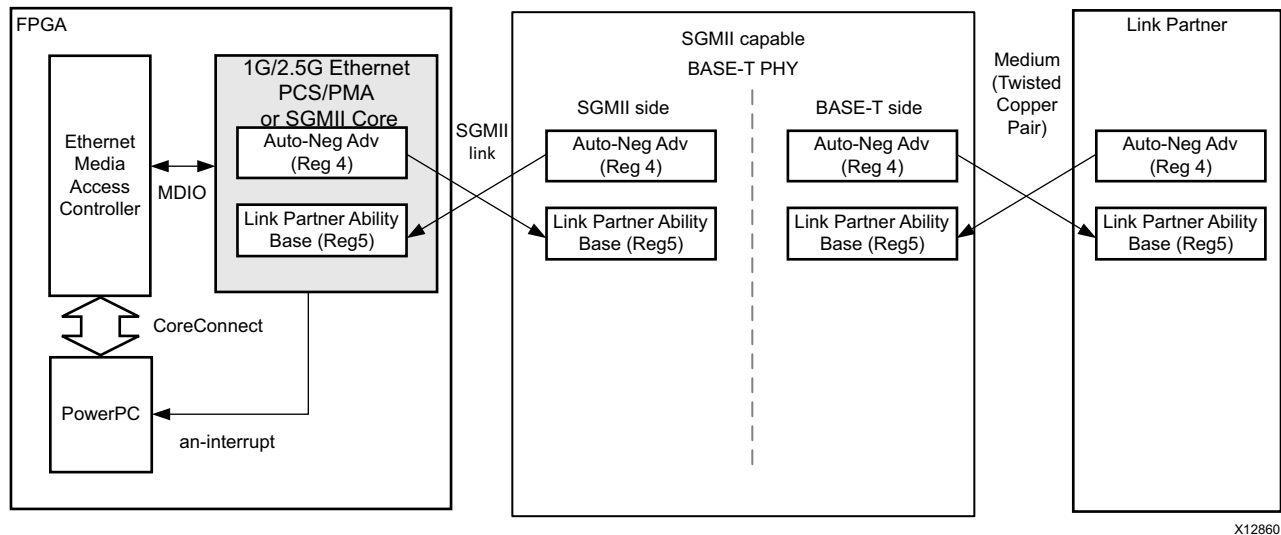

Figure 3-52: SGMII Auto-Negotiation in MAC Mode
Figure 3-52 shows the operation of SGMII auto-negotiation as described in Overview of Operation. Additional information about SGMII Standard auto-negotiation is provided in the following sections.
- The PHY performs auto-negotiation with its link partner using the relevant auto-negotiation standard for the chosen medium (BASE-T auto-negotiation is shown in Figure 3-52, using a twisted copper pair as its medium). This resolves the operational speed and duplex mode with the link partner.